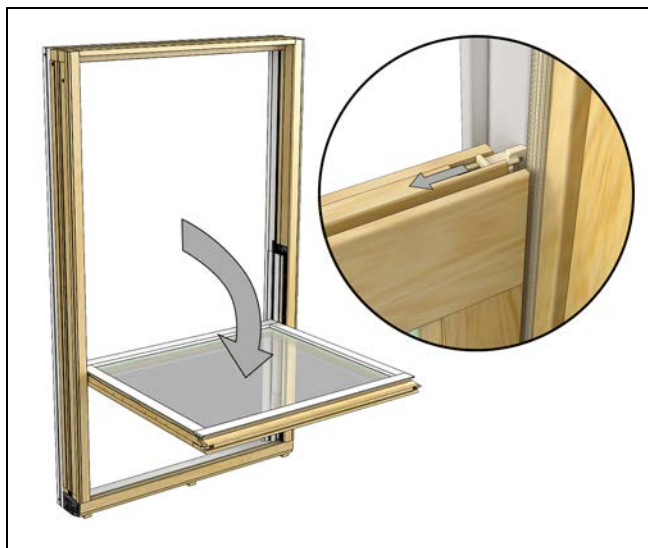

Figure 83
1. Lower top sash to a comfortable position. Retract both latches simultaneously and tilt sash inward so that it is perpendicular to frame (90° angle). See Figure 83.